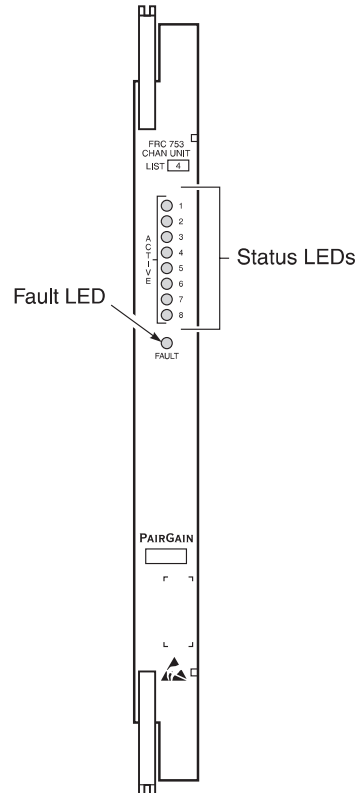

Figure 1. FRC-753 Front Panel
- 2.1 Figure 1 shows the FRC-753 front panel. Table 1 lists the different states and indications for the FRC-753 Channel Unit front panel LEDs.